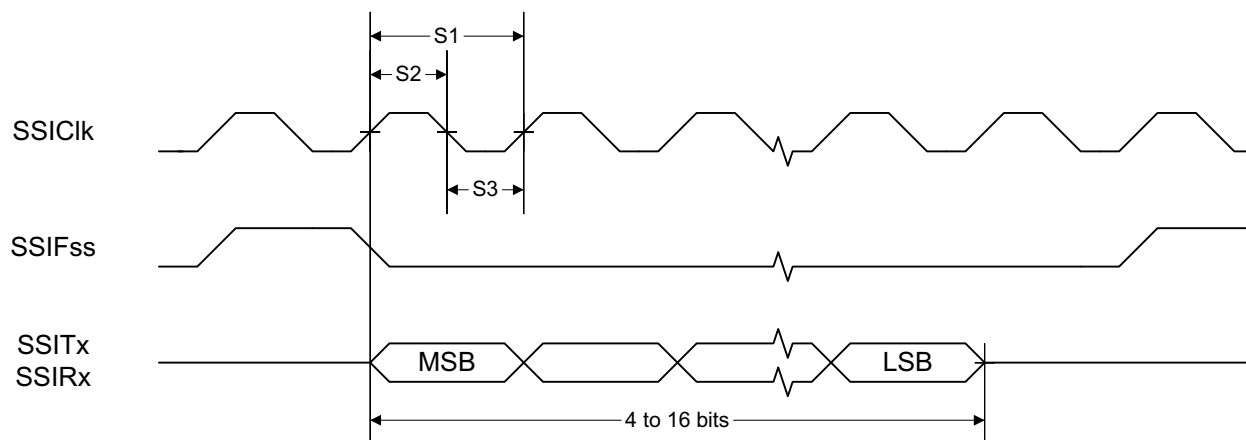
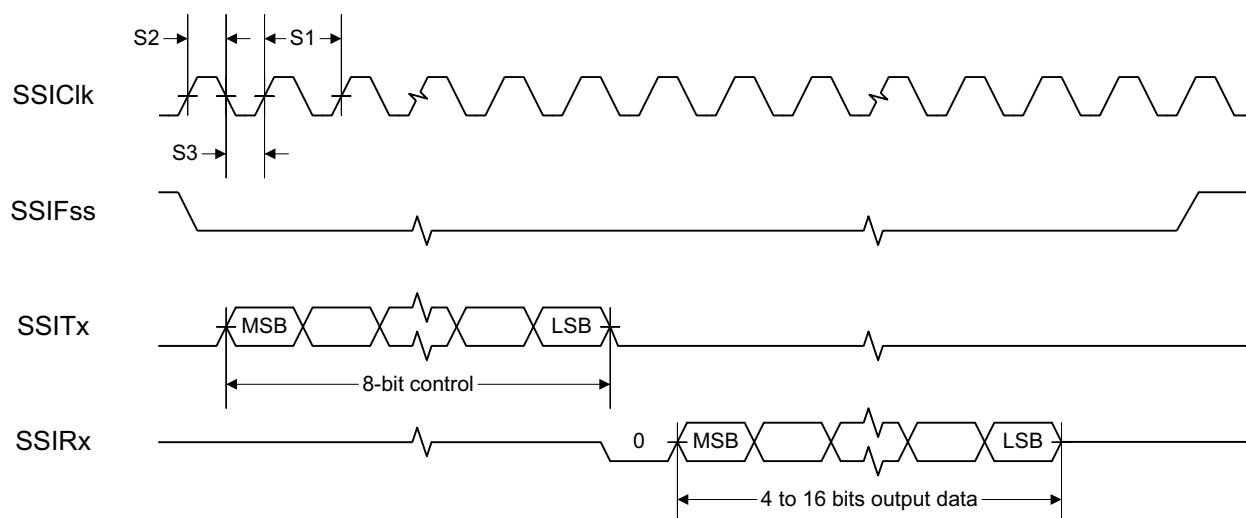
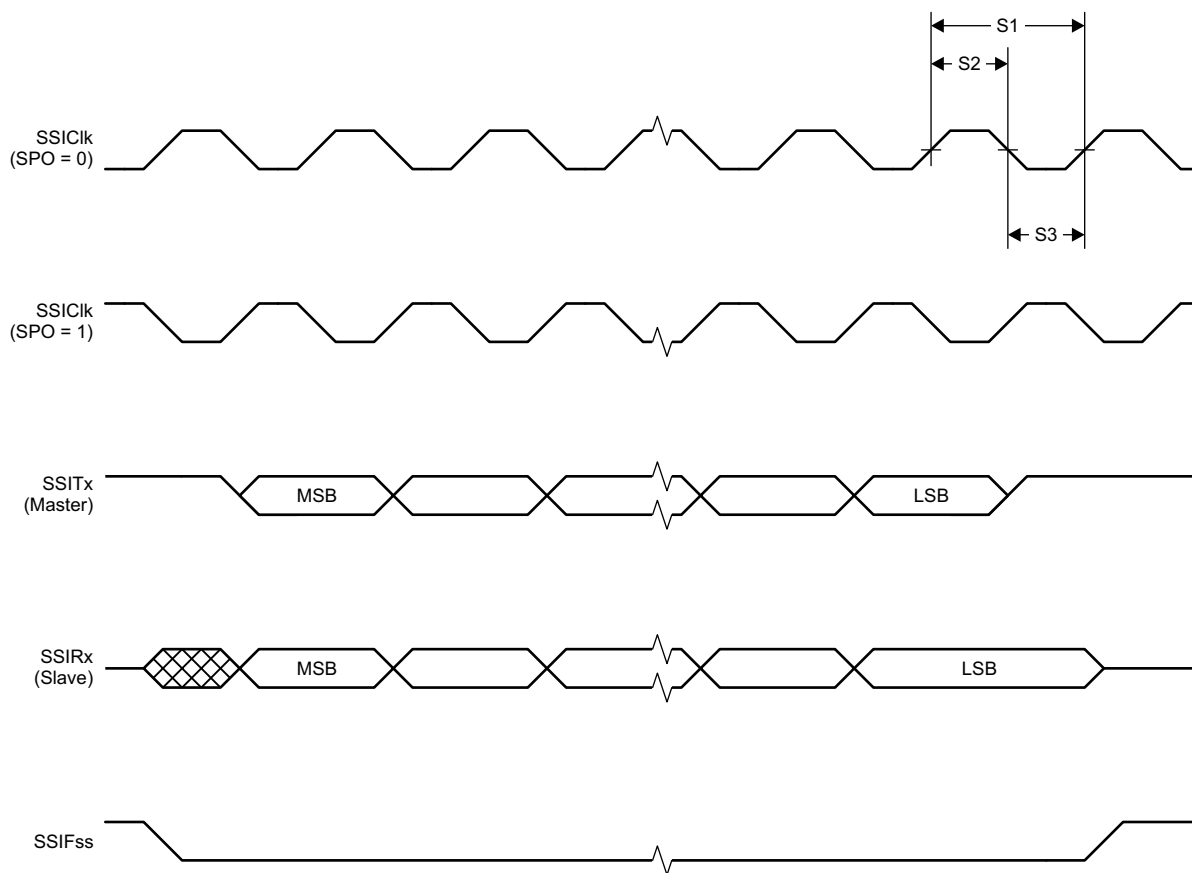

图 7-1. SSI Timing for TI Frame Format (FRF = 01), Single Transfer Timing Measurement
图 7-2. SSI Timing for MICROWIRE Frame Format (FRF = 10), Single Transfer
图 7-3. SSI Timing for SPI Frame Format (FRF = 00), With SPH = 1
(1) Refer to SSI timing diagrams 图 7-1, 图 7-2, and 图 7-3.